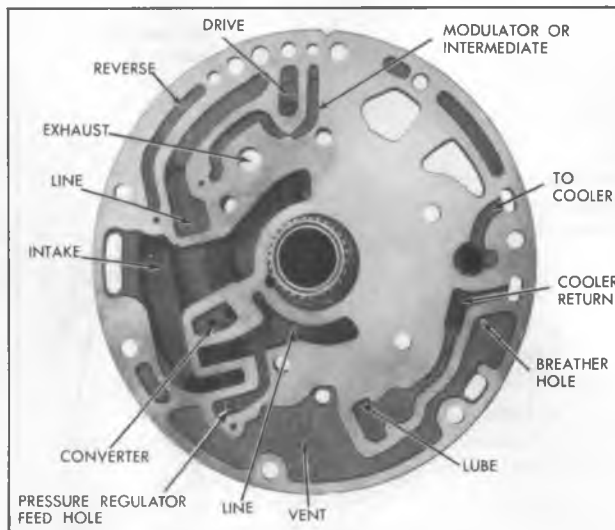

Figure 60—Identification of Oil Passages in Pump Cover
11. Check that all passages are open and not interconnected (fig. 60).